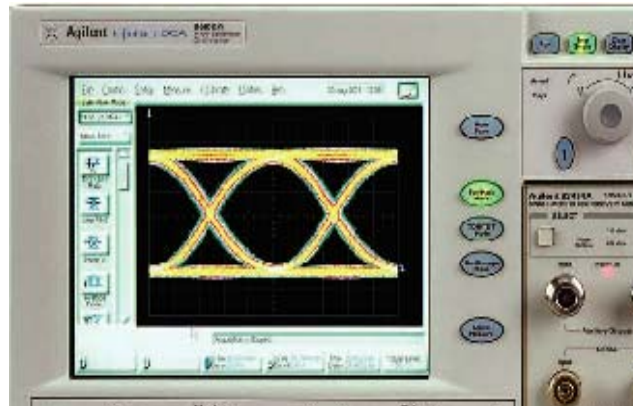

Figure 13. The Eye Diagram through the Signal Analyzer
- Verify on the signal analyzer that the eye diagram looks as shown in *Figure 13*. Make sure that the eye width is equal to 1-bit period.